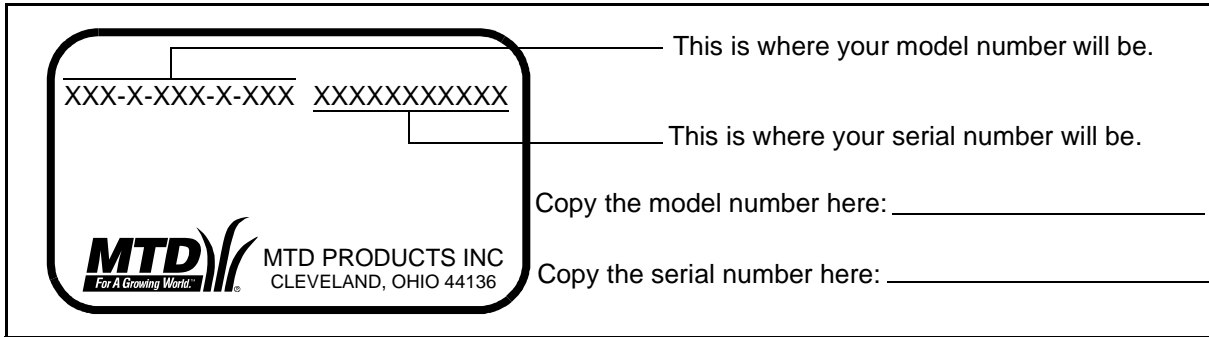

Figure 1
- Every snow thrower has a model plate. You can locate it by standing behind the unit in the operating position and looking down at the rear frame below the engine. See Figure 1.